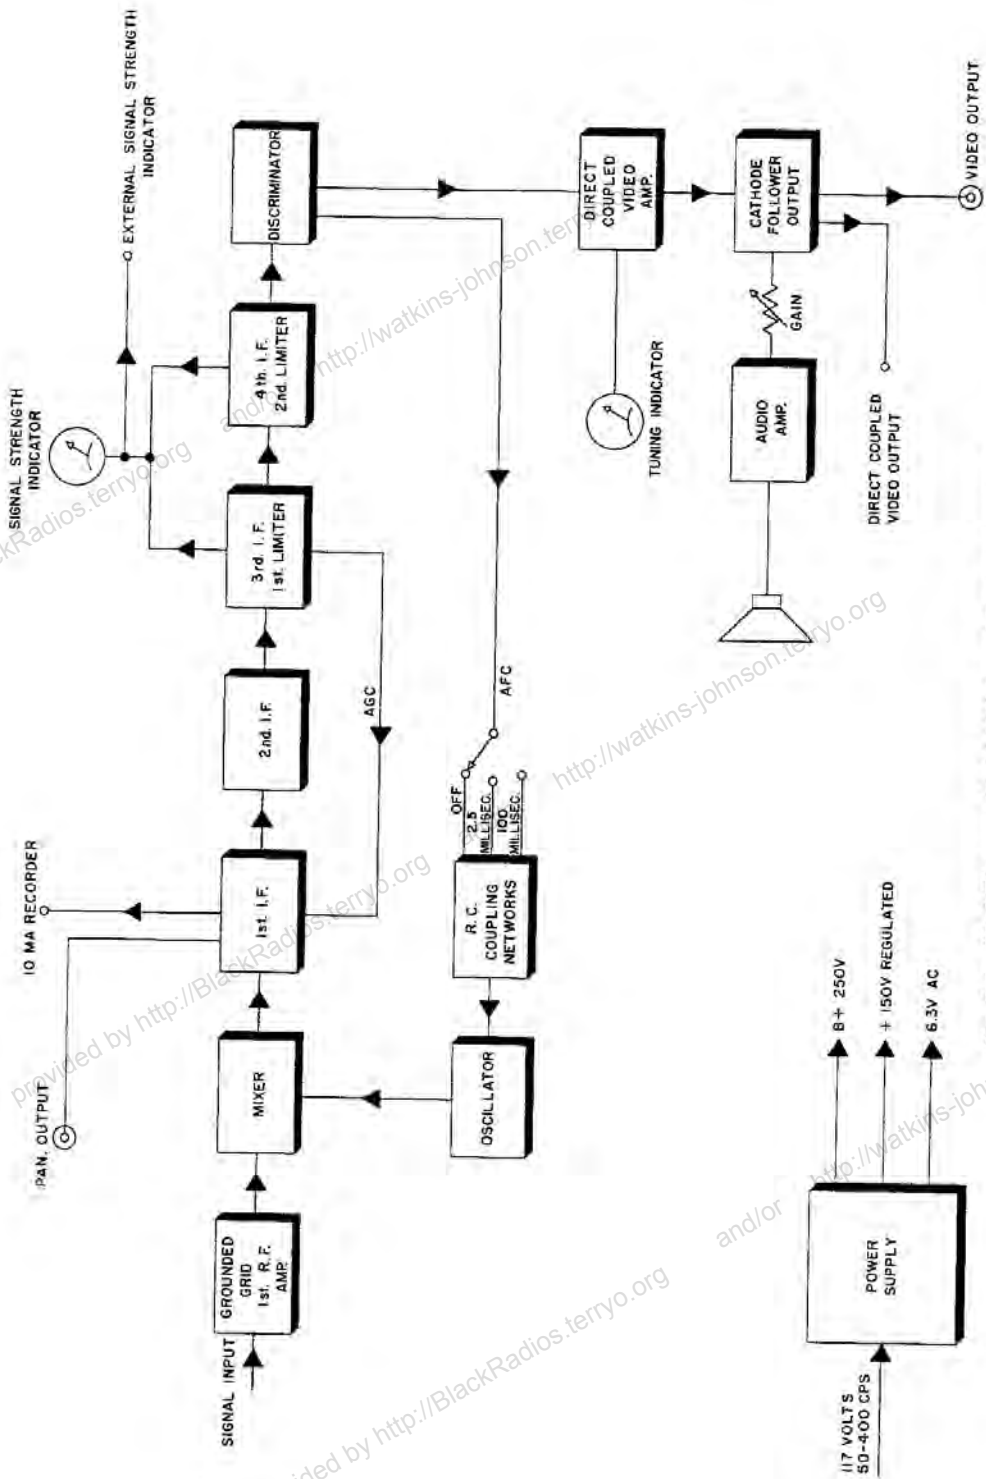

Fig. 2-1. Block Diagram, Model 1670 Spectral Purpose Receivers
a. A block diagram of the receivers in the 1670 line is shown in Fig. 2-1. The tuner is designed to produce moderate noise figures in the frequency range covered without resorting to special tubes with critical operating conditions.